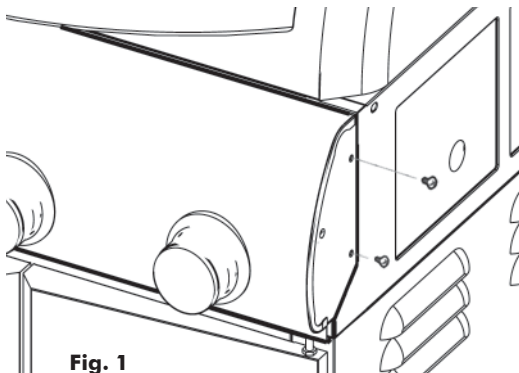
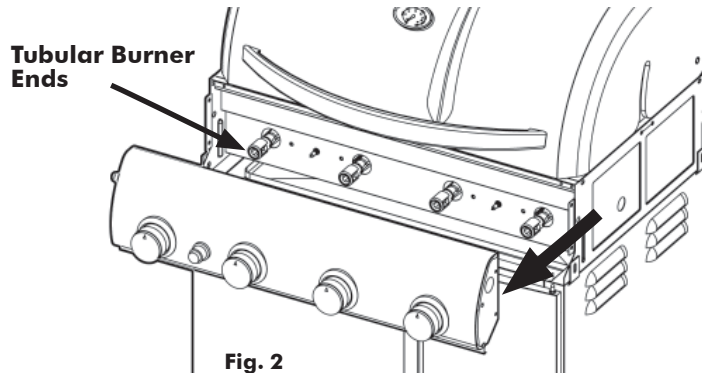

Fig. 1
Fig. 2
4. Figures 1, 2, 4 and 4a show the grill at assembly step 11, prior to attaching the Side Tables, and illustrate the initial steps in the "FIRST TIME USE LEAK TEST".
Detach the Control Panel from the Grill Body/Firebox by removing the two 5/32" Bolts from each end. (Fig. 1) Gently pull the Control Panel away from the Body until Valves disengage from the Tubular burner ends. (Fig. 2) Support the Control Panel to keep tension off of the igniter wire leads or detach the wire leads from the Starter Button module.
10. Re-attach the wire leads to the Igniter button. Replace Control Panel around flanges at Bowl ends and align bolt holes on each side. Replace and retighten all bolts. (Fig. 1)